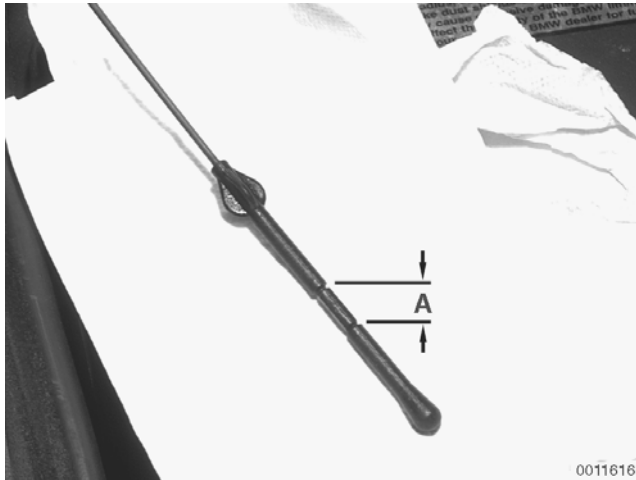

Fig. 27. ATF dipstick on A4S 310R transmission. Fluid level is indicated at A.
- *On cars with ATF level dipstick, check the ATF level using Fig. 27 and Table e. The fluid level should only be checked with car on level surface and unloaded.*